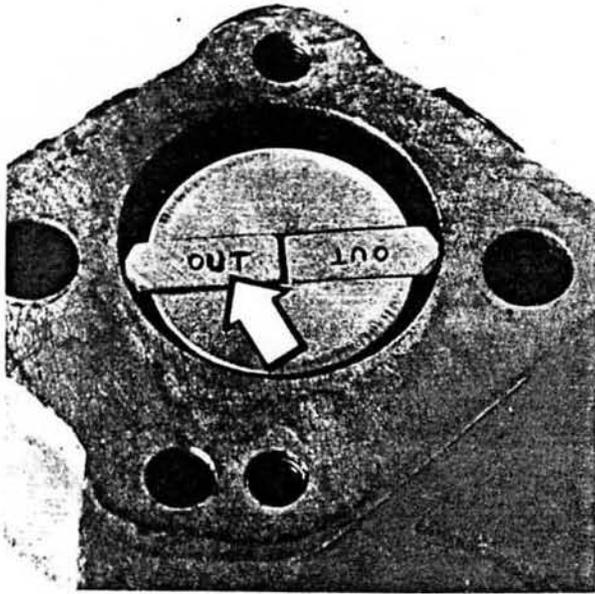

Fig. 44. Location of wings
1. Assemble the spindle, spring and wings and fit in housing. NOTE. The "OUT" marking on the wings should be fitted facing away from the engine, see Fig. 44.